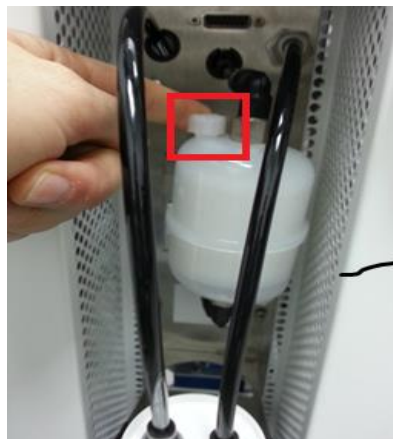

Figure 9-7: Capsule Filter with Plastic Cap
12. After 300 seconds (while the Pump is working), unscrew the plastic Cap on the side of the Capsule Filter counter clockwise to release air. Afterwards, screw the Cap clockwise to close it (Figure 9-7). Ensure that no water is leaking.